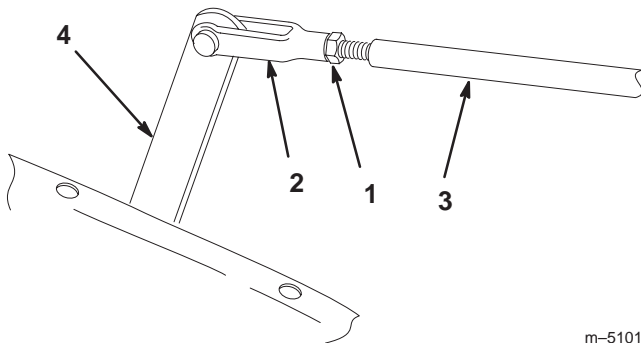

Figure 45
3. Move the adjustment lever by hand to level the mow and lift pedals and adjust the yoke on the control rod until the hole in the yoke lines up with the adjustment lever hole (Fig. 45).